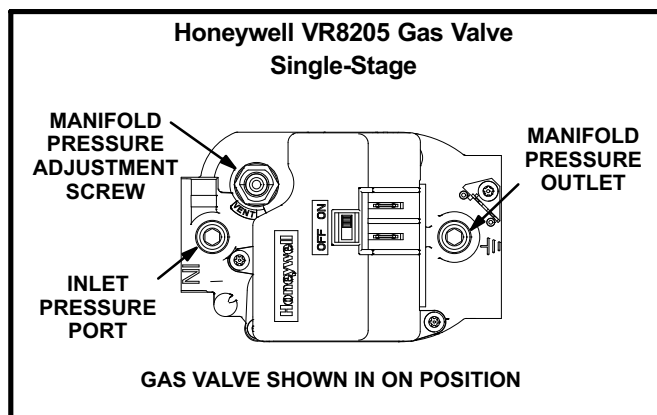
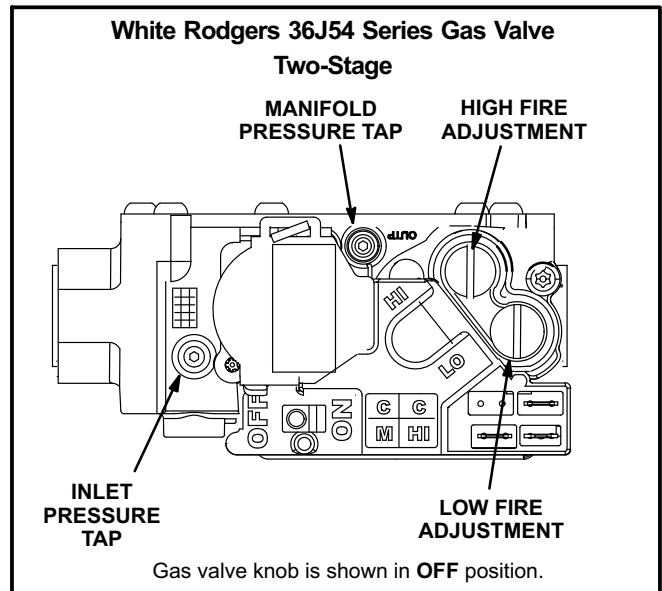

FIGURE 17
FIGURE 18
### Gas Valve Operation (figure 17 and 18)
- 5- *Honeywell VR8205 Gas Valve* - Switch gas valve lever to **OFF**. See figure 17.
*White Rodgers 36J54 Gas Valve* - Turn knob on gas valve dockwise  to **OFF**. Do not force. See figure 18.
- 6- Wait five (5) minutes to clear out any gas. If you then smell gas, **STOP!** Immediately call your gas supplier from a neighbor's phone. Follow the gas supplier's instructions. If you do not smell gas, go to the next step.
- 7- *Honeywell VR8205 Gas Valve* - Switch gas valve lever to **ON**. See figure 17.
*White Rodgers 36J54 Gas Valve* - Turn knob on gas valve counterclockwise  to **ON**. Do not force. See figure 18.